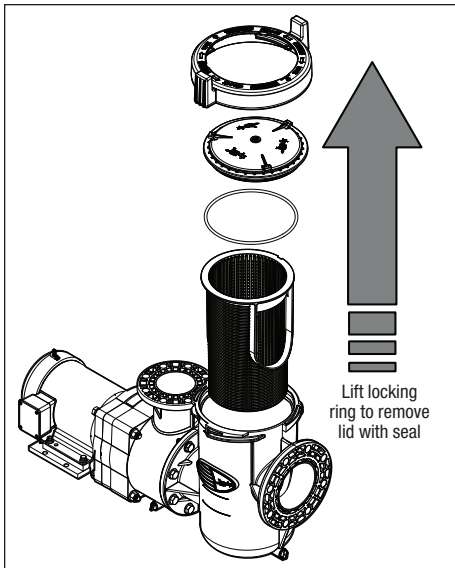

Figure 10. Exploded View of Pump
8. The strainer basket may be removed and emptied. Ensure the basket is lined up properly with the strainer's inlet port when placing the basket back into the strainer pot. See *Figure 10*.